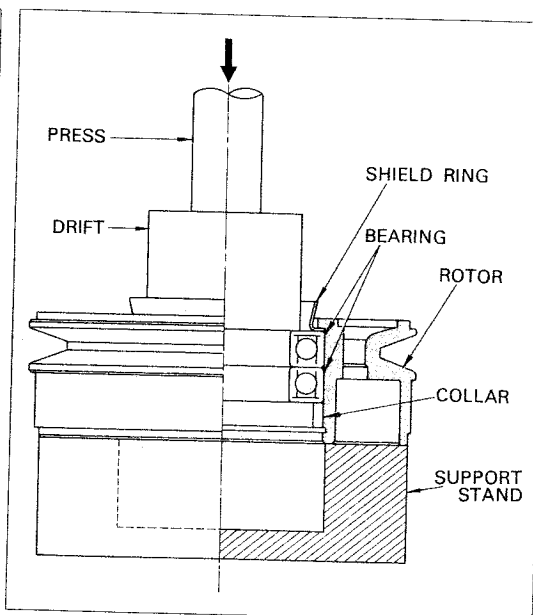

Fig. 82
- 2) Place the rotor on the support stand with pulley side up, and press a collar, two bearings and a shield ring from the rotor boss. See Fig. 82.